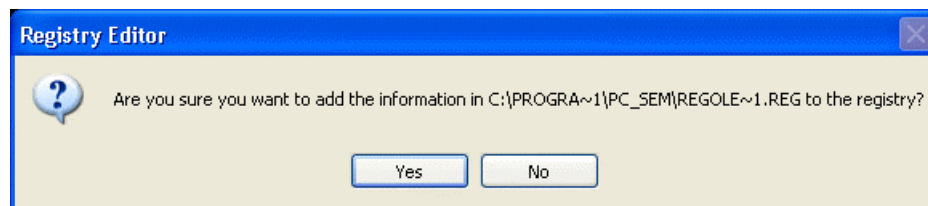

Fig. 6.3-8 Registry Editor Window
8. Click on **Yes** when a window as shown below appears (**Fig. 6.3-8**).